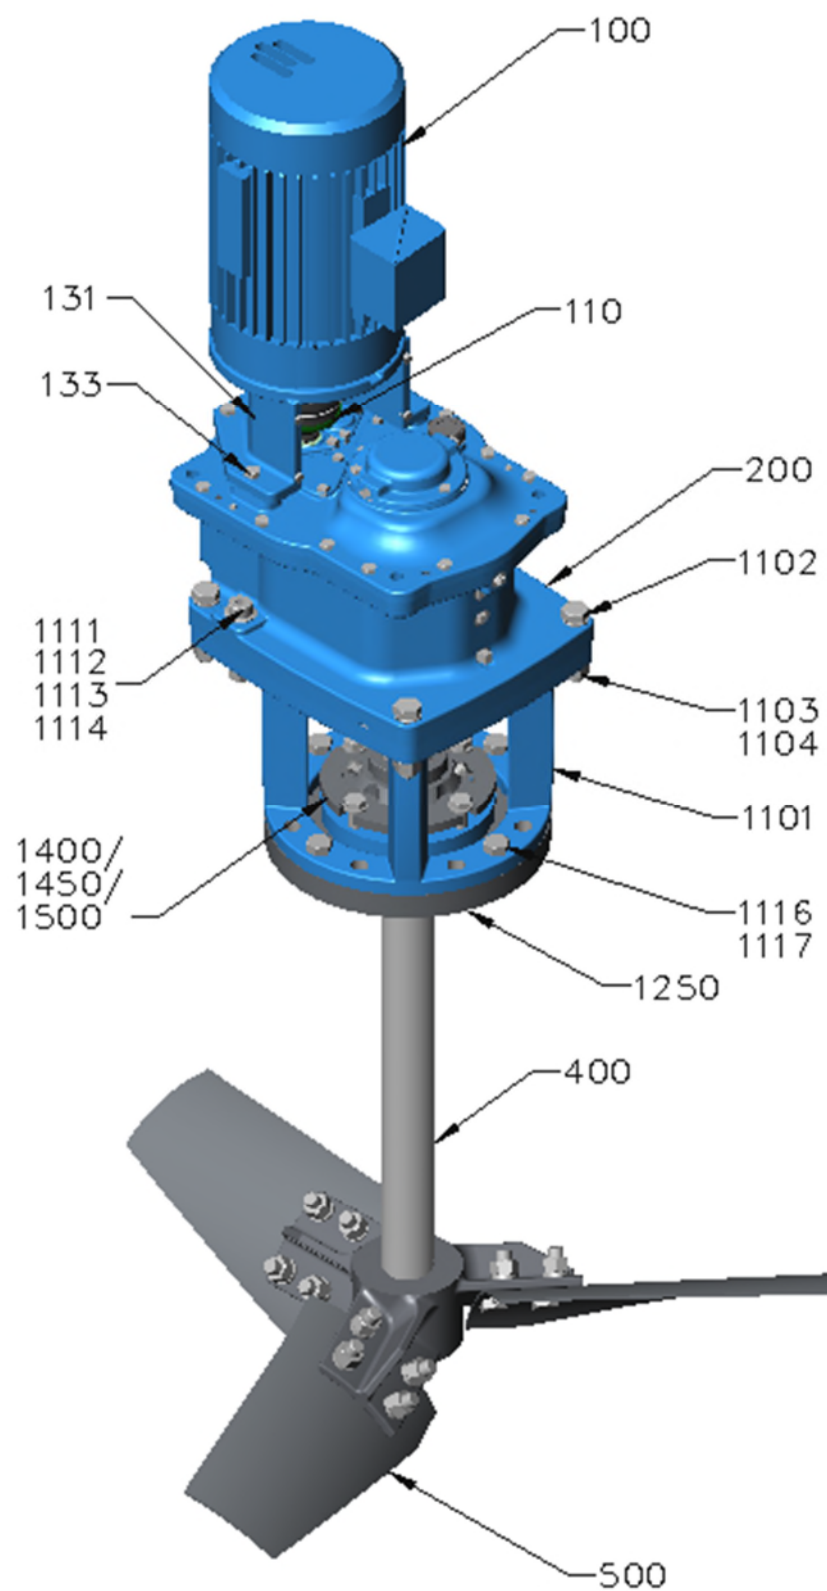
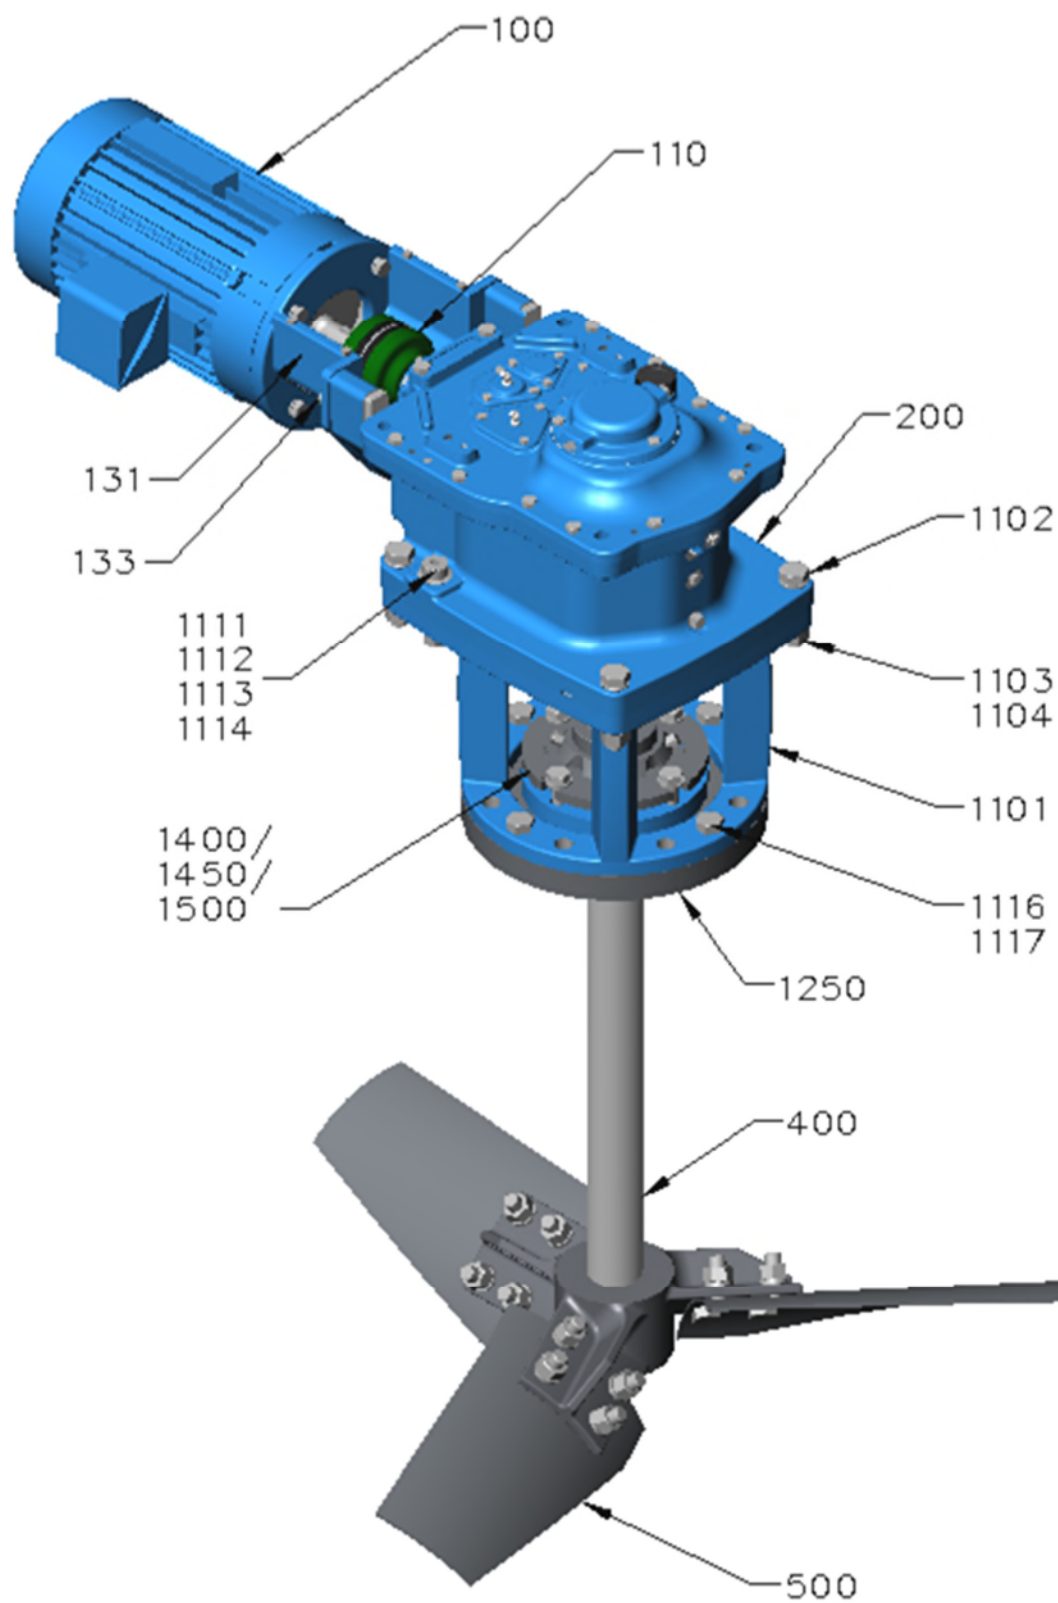

Figure 4. Model 20 GTN, GTNC, GTNS Agitator Assembly
Figure 5. Model 20 HTN, HTNC, HTNS Agitator Assembly
3. Install handhole cover bolts, lockwashers [1106, 1107] into the pedestal [1101]. Refer to Figure 14 and Figure 15, page 33. Assemble the pedestal to mounting flange [1251] using bolts and lockwashers [1116, 1117] (see Figure 4 or Figure 5). Torque bolts to value shown in the APPENDIX, Page 105. Install gear drive support pedestal/mounting flange assembly to vessel nozzle, along with the gasket and fastener set furnished by customer (on stud mounted units, studs [1258] are supplied by Chemineer).